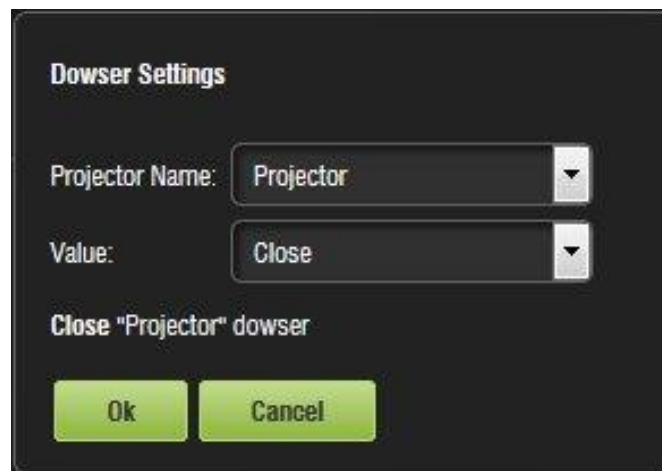

Figure 143: Add a New Action Window - Dowser
- The following window will appear (Figure 143):